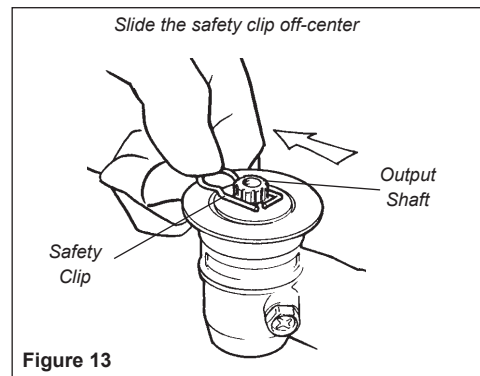

Figure 13
2. Slide the safety clip off-center. See Figure 13.